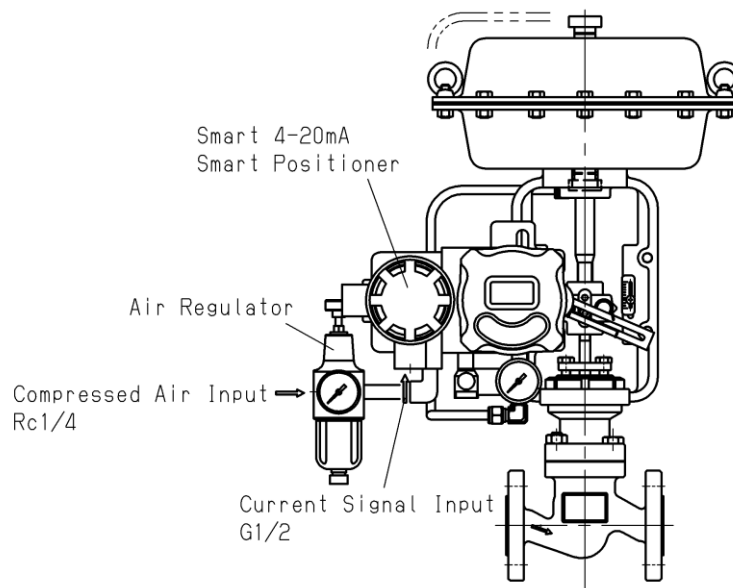

Fig.10
•When purchasing the goods with accessories, it is delivered by the structure with shown in Fig.10. Please draw the signal cable from the external DC signal connection port shown in Fig.10. Connection way is 2 wire type. Please confirm and do wire the DC 4-20mA with the external signal line. The positioner normally operates with a minimum supply current of 3.8 mA DC.